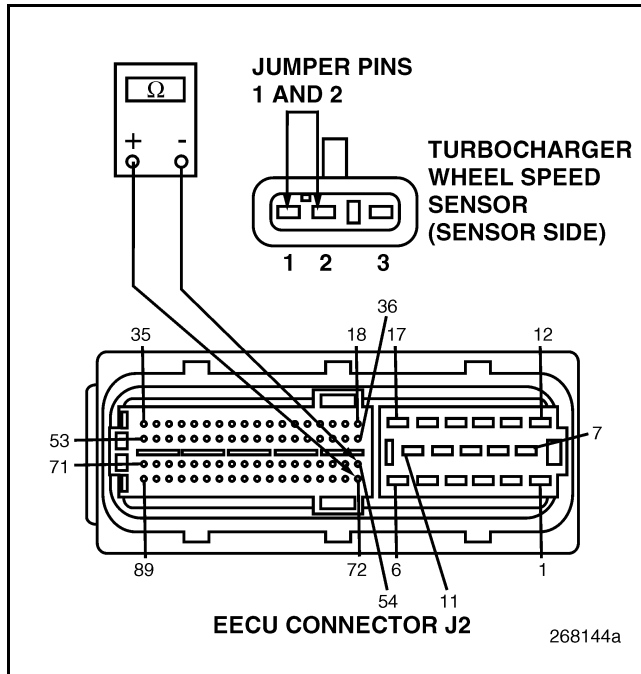

Figure 617
5. Check for continuity between EECU connector J2 pins 54 and 72 (see Figure 617).